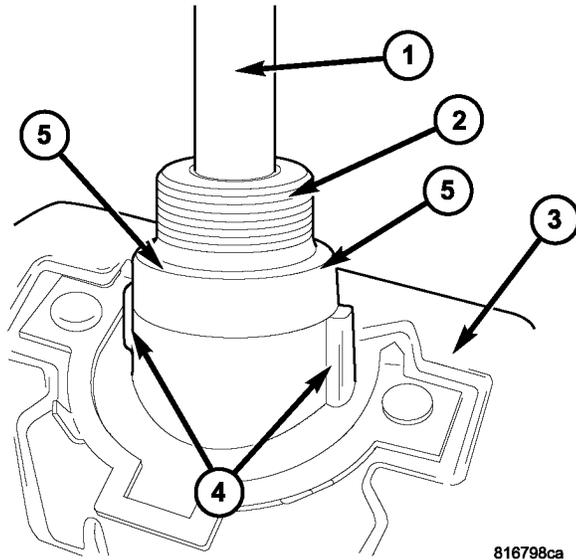

Fig. 2 TAPE APPLIED TO ANTENNA BASE
7. Locate the two locating tabs used to index the plastic trim ring to the antenna base (Fig. 2).